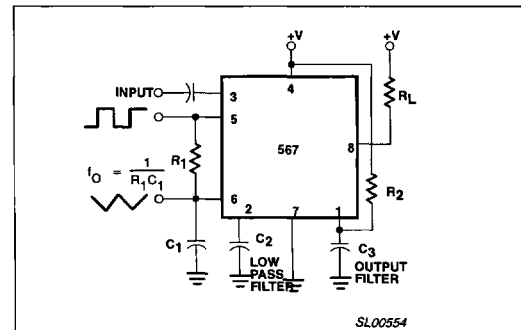

Figure 17.
- With R2=130kΩ from Pin 1 to V+. See Figure 17.
Figure 17 shows a typical connection diagram for the 567. For most applications, the following three-step procedure will be sufficient for choosing the external components  $R_1$ ,  $C_1$ ,  $C_2$  and  $C_3$ .
AVAILABLE OUTPUTS (Figure 17)